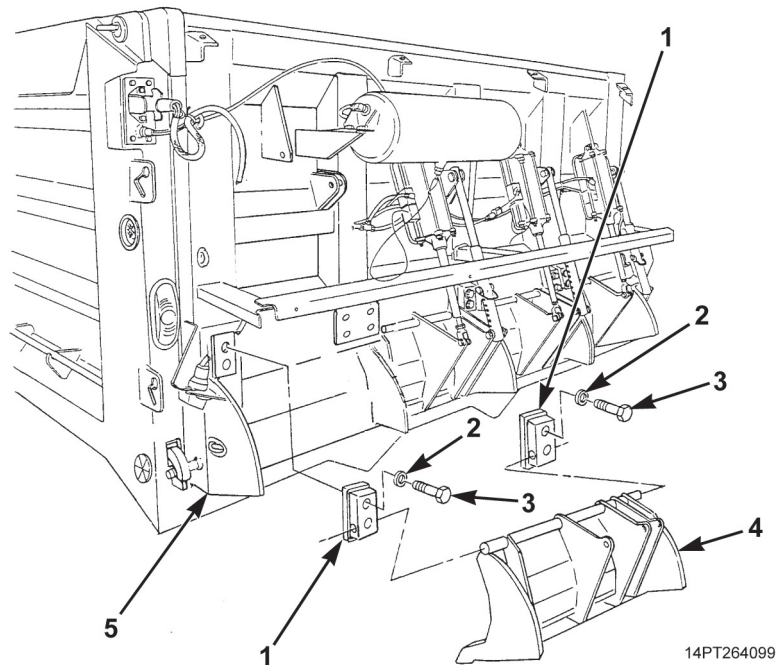

Figure 1. MCS Gate Removal.
1. Remove four screws (Figure 1, Item 3), lockwashers (Figure 1, Item 2), MCS gate (Figure 1, Item 4), and two brackets (Figure 1, Item 1) from tailgate (Figure 1, Item 5). Discard lockwashers.
2. Remove two brackets (Figure 1, Item 1) from MCS gate (Figure 1, Item 4).